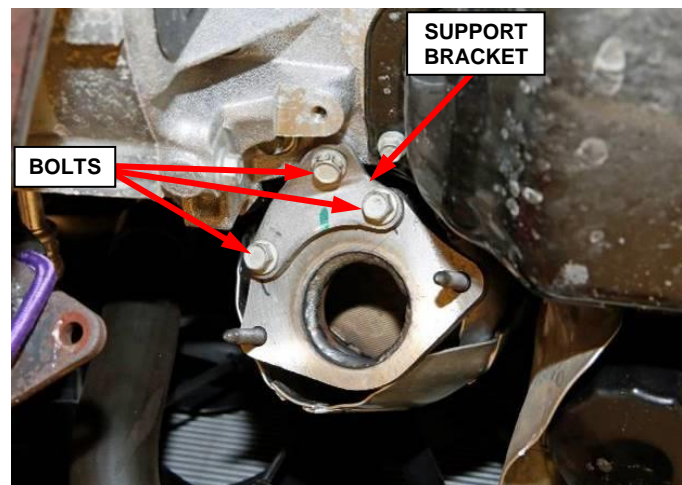

Figure 20 – Maniverter Outlet Bracket
39. Install the **NEW** catalytic converter lower support bracket to the engine oil plan using the bolt saved from the removal step. Do not tighten the bolt at this time (Figure 20).
40. Install two **NEW** bolts securing the lower support bracket to the catalytic converter. Tighten all three catalytic converter lower support bracket bolts to 20 N·m (15 ft. lbs.) (Figure 20).